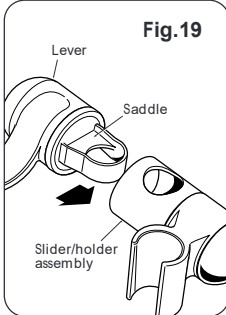
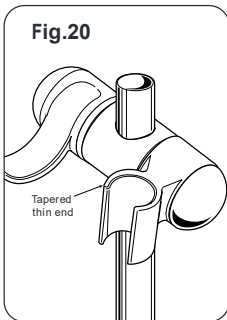

Fig.19
Fig.20
**C** With the saddle, spacer and lever parts to hand, screw the saddle 2 or 3 turns into the lever (fig.18). Place the saddle and lever into the slider/holder assembly (fig.19) so that the holes align, then slide onto the rail (fig.20). Tighten to the rail by turning the lever. When tight, the lever should be facing forwards and not pointing to the wall. If not, slacken off and remove from the rail. Rotate the saddle and lever 180° within the slider/holder assembly then replace onto the rail and tighten. Ensure the tapered thin end of the spray head holder is in the uppermost position.